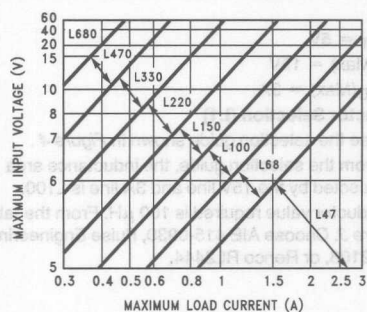

FIGURE 3. LM2576(HV)-3.3
A. Select the correct Inductor value selection guide from *Figures 3, 4, 5, or 6*. (Output voltages of 3.3V, 5V, 12V or 15V respectively). For other output voltages, see the design procedure for the adjustable version.
C. Identify the inductor value from the inductor code, and select an appropriate inductor from the table shown in *Figure 3*. Part numbers are listed for three inductor manufacturers. The inductor chosen must be rated for operation at the LM2576 switching frequency (52 kHz) and for a current rating of $1.15 \times I_{LOAD}$. For additional inductor information, see the inductor section in the Application Hints section of this data sheet.
C. Inductor value required is 100 μH . From the table in *Figure 3*. Choose AIE 415-0930, Pulse Engineering PE92108, or Renco RL2444.